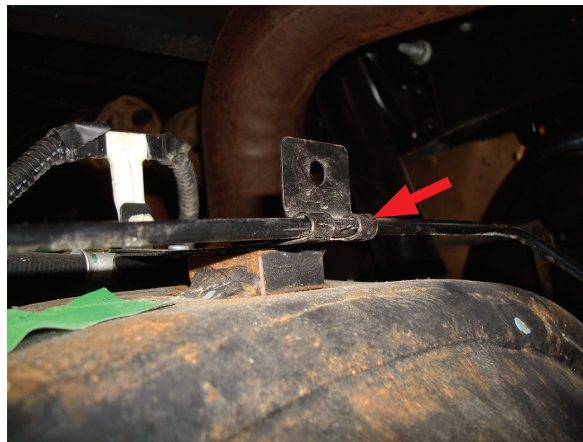

fig. 6
5. Unclip the brake line from the bracket on top of the differential (fig. 6).
- Once the upper and lower brackets are tight, re-connect the brake line bracket to the spring perch using the stock bolt removed. Insert the brake line junction block back into the bracket on the axle and re-insert the clip that holds it in place. Clip the brake line back onto the bracket on top of the differential that was previously removed (figs. 6 and 22).